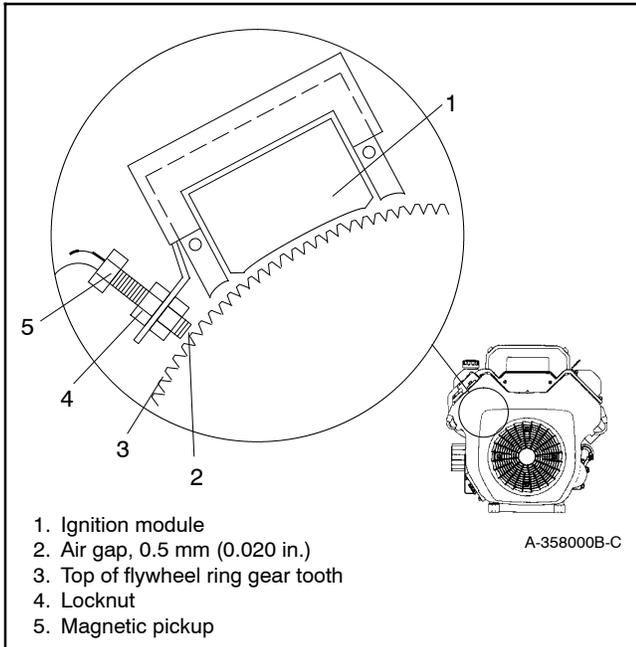

Figure 5-26 Magnetic Pickup Air Gap
6. If the voltmeter displays less than 1.75 volts AC, check the air gap as described in the following steps before replacing the sensor. Verify that the magnetic pickup air gap is 0.5 mm (0.020 in.). Measure the air gap at 3 or 4 places to get an accurate reading. See Figure 5-26.
- d. Adjust the air gap, if necessary, by loosening the locknut and turning the pickup. See Figure 5-26.